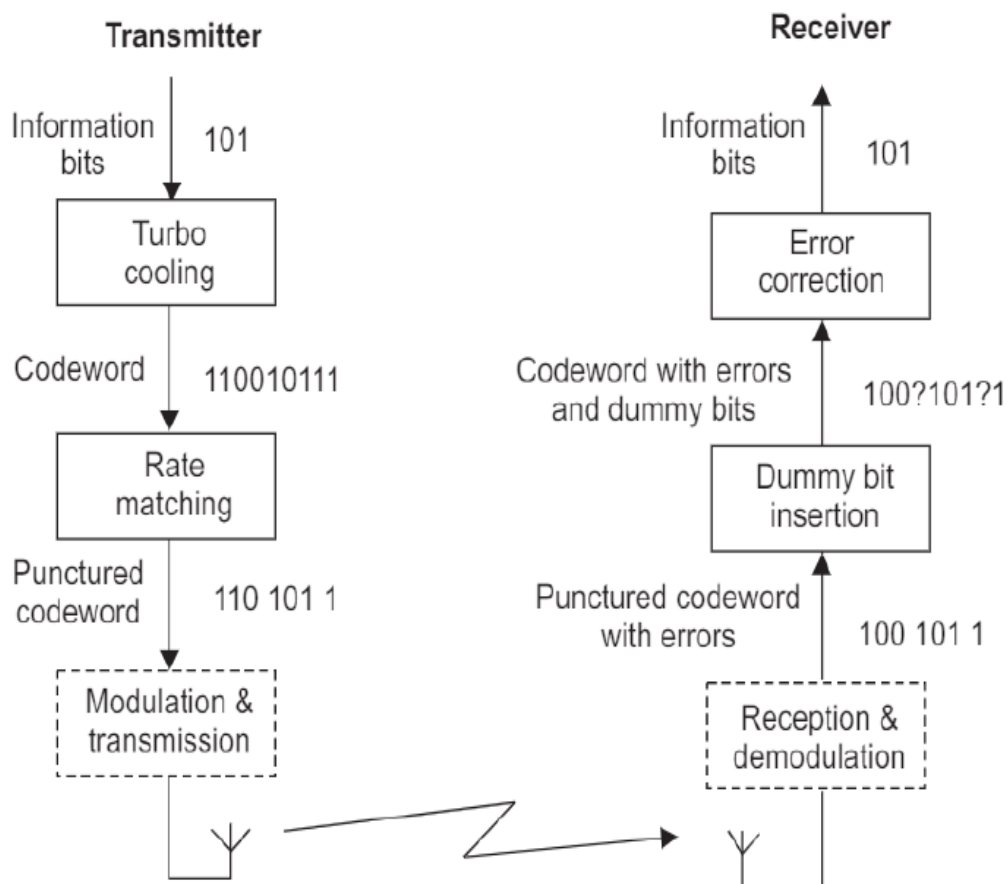

Fig 4.21: Block diagram of a transmitter and receiver using forward error correction and rate Matching
- Despite this, a wireless transmitter can still adjust the coding rate using the two- stage process shown in Fig. 4.21.